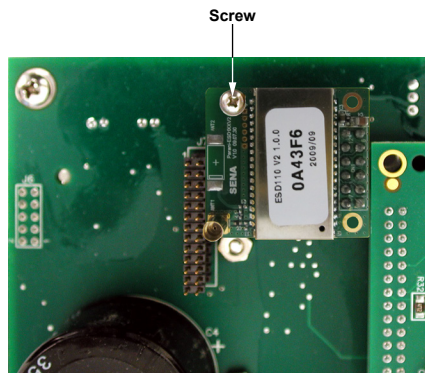

Figure 8-4 Main PCB, Bluetooth Serial Module Installed
6. Install a flat washer and 2-56 x 1/4 screw onto the standoff through the Bluetooth module's standoff screw hole (Figure 8-3). Figure 8-4 illustrates the correct mounting of the Bluetooth Serial Module.